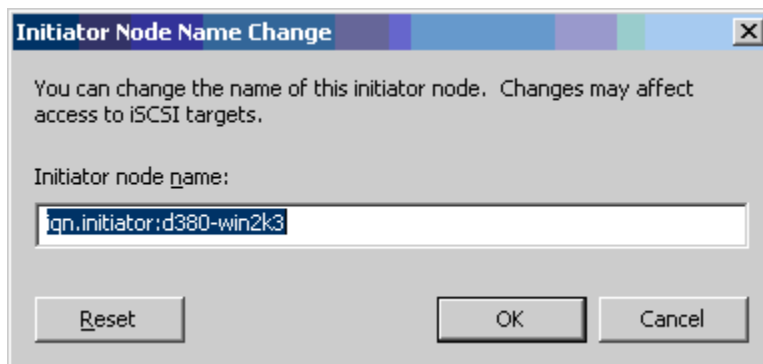

Figure 10-8. Changing the Initiator Node Name
3. In the Initiator Node Name Change dialog box (see Figure 10-8), type the initiator IQN name, and then click **OK**.